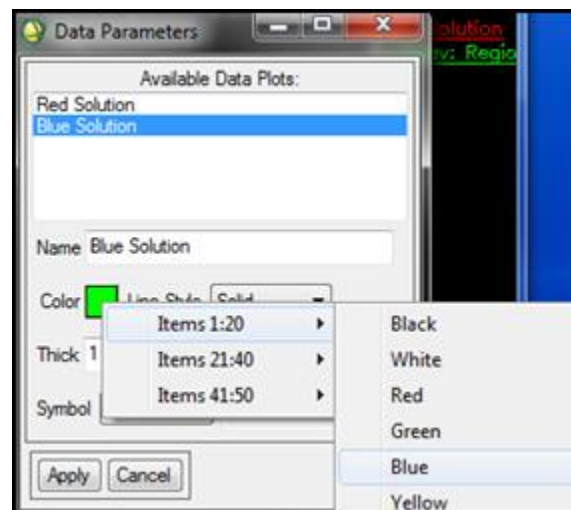

Figure 5.11f. Changing Graph Color
- Change the color of the plot: (Figure 5.11f).